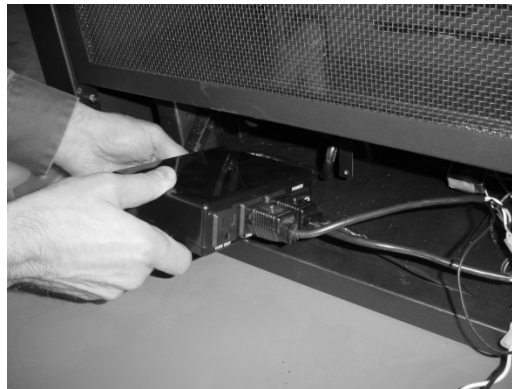

Figure 26
- 17 Attach the included velcro to the bottom of the fan control module and to the base of the fireplace near back left of the fireplace. Slide the fan controller into place and secure using the velcro (see Figure 26).